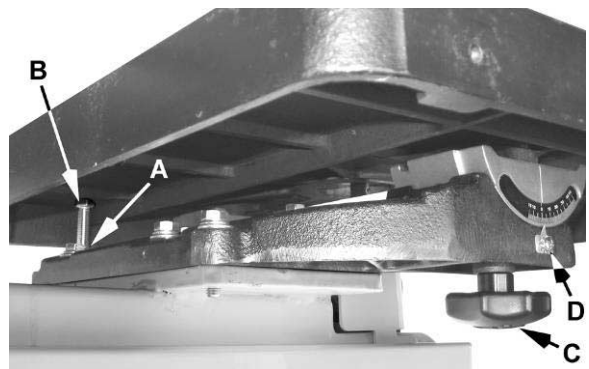

Figure 15
1. Loosen *lock knob(s)/lock handle* (C, Fig. 15) and tilt the table until it rests against table *stop bolt* (B, Fig. 15); then re-tighten the *lock knob(s)/handle*.
3. If an adjustment is necessary, loosen the *lock knob(s)/handle* (C, Fig. 15). Tilt the table until it is square to the blade; then re-tighten the lock knobs.
4. Loosen *lock nut* (A, Fig. 15) and turn table *stop bolt* (B, Fig. 15) until it contacts the table. Tighten the *nut* (A, Fig. 15) to hold table stop in place. When tightening the nut hold the table stop bolt in place with a wrench to prevent movement.
5. If necessary, adjust the *pointer* (D, Fig. 15) to zero.